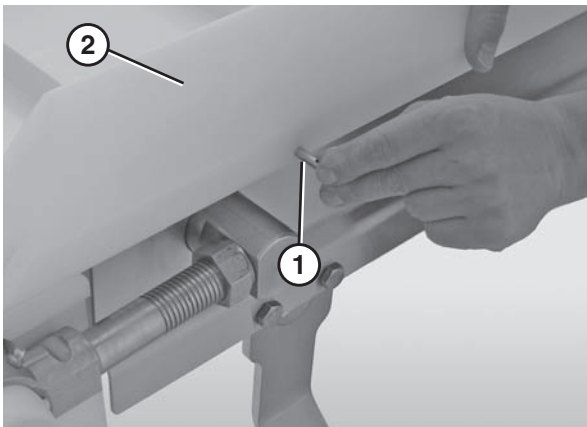

Figure 22
3. Insert the pull pins (Figure 22, item 1) into the holes in the guide (Figure 22, item 2).